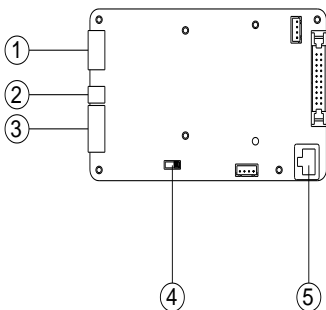
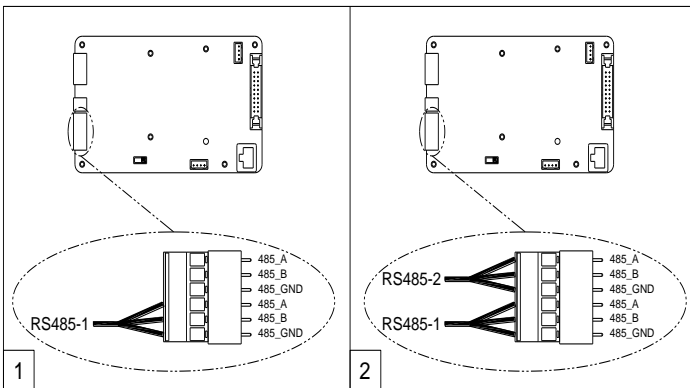

Figure 3-25 Communication Connection Interfaces
Figure 3-26 RS485 Connection of wire-box
RS485 communication cables are connected via the 6-pin connector to the port labeled (2) in Figure 3-25. When creating a network of multiple inverters, the cables are terminated to the same 6-pin connector and 6-pin connector. Figure 3-26 shows a single inverter communication connection in (1) and a network configuration in (2).